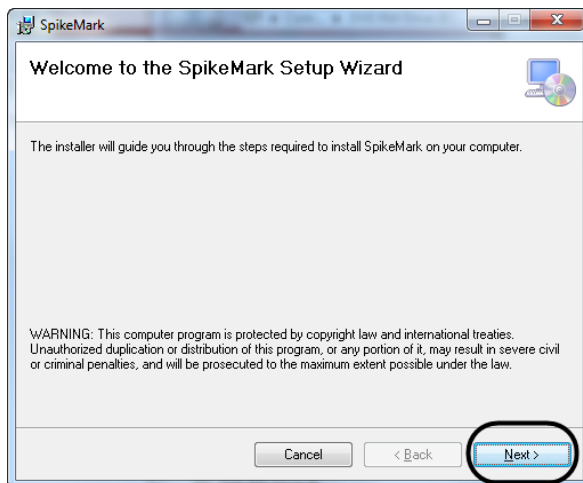

Figure 4
6. In the **Welcome to SpikeMark Setup Wizard** window, click **Next** (Figure 4).